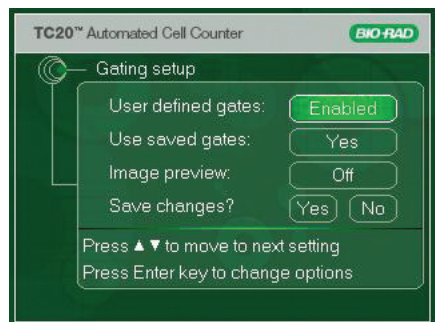
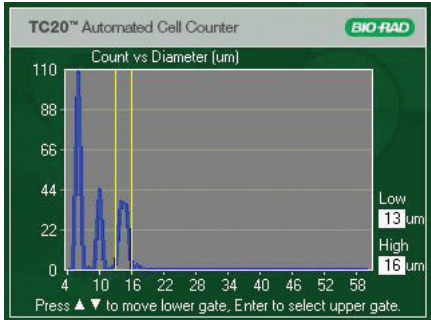

Fig. 7. Setting up gating.
Fig. 13. Counting samples with multiple cell populations.
- Press the **down** arrow key to go to **Gating setup** (Figure 7) from the **Home** screen, and press **Enter**.
When counting samples with multiple cell populations that vary greatly in size (for example, fibroblasts with lymphocyte background) enable the **User defined gates** (Figure 7). A histogram (Figure 13) will be displayed at the beginning of the cell count; you can adjust the size gates to select the population of interest.